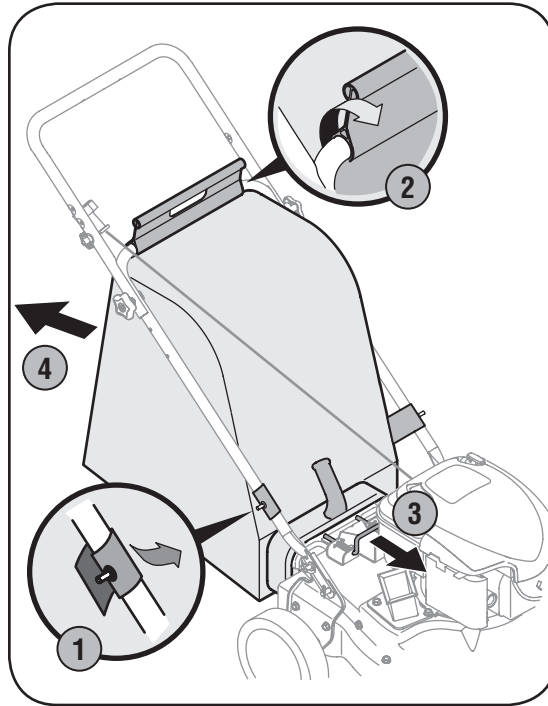

Figure 4-4
2. Unsnap bag clip from the top of lower handle. See Figure 4-4.